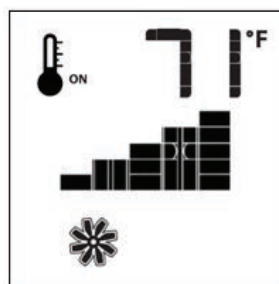

Figure 68:
If the Heater is equipped with a hot air circulating fan, the speed of the fan can be controlled by the Proflame2 System. The fan speed can be adjusted through six (6) speeds. To activate this function use the Mode Key (Figure 55) to index to the fan control icon (Figure 67). Use the Up/Down Arrow Keys ((Figure 55) to turn on, off or adjust the fan speed (Figure 68). A single “beep” will confirm reception of the command.